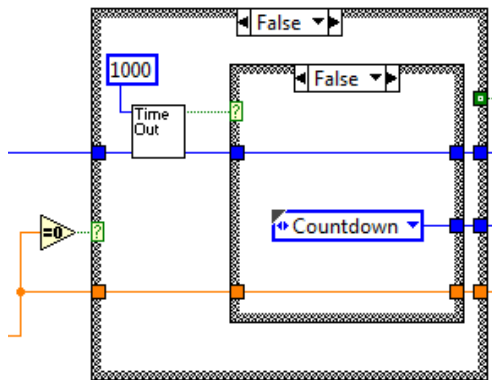

FIGURE 2.18
4. Fig. 2.18 shows the other case: what we do when the timer has not yet expired. We remain in the Countdown state, but we don't decrement Count. Instead we just pass the input through to the output.